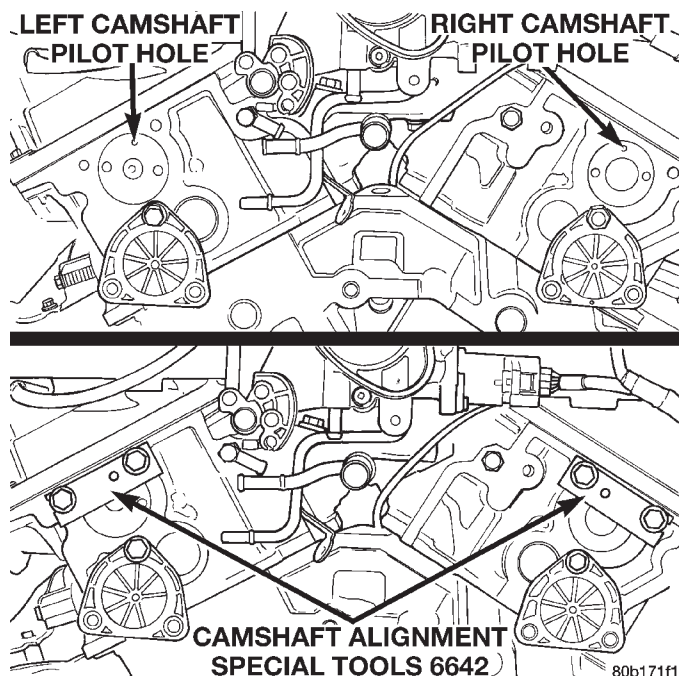

Fig. 50 Camshaft Alignment Special Tools 6642
(3) Install the camshaft alignment Special Tools 6642 to the rear of each cylinder head (Fig. 50).